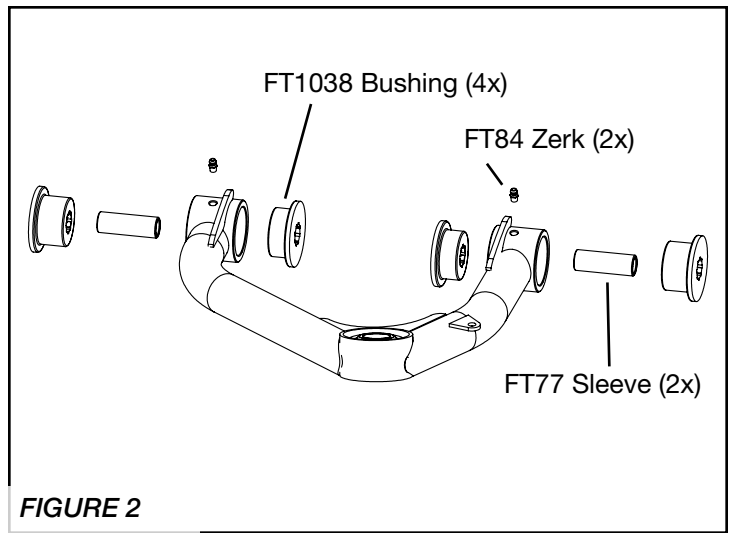

FIGURE 2
6. Install all these components in the control arm barrels. **SEE FIGURE 2**